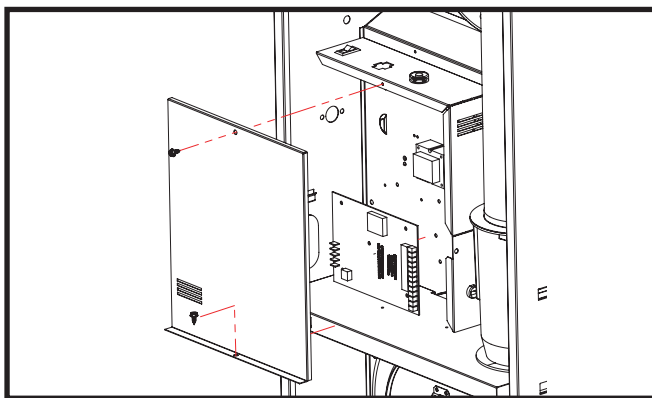

Figure 1. MG1E Control Board Removal
5. Remove the board and replace with the new one. The existing standoffs can be removed. Standoffs are included on the new board. (Figure 1)